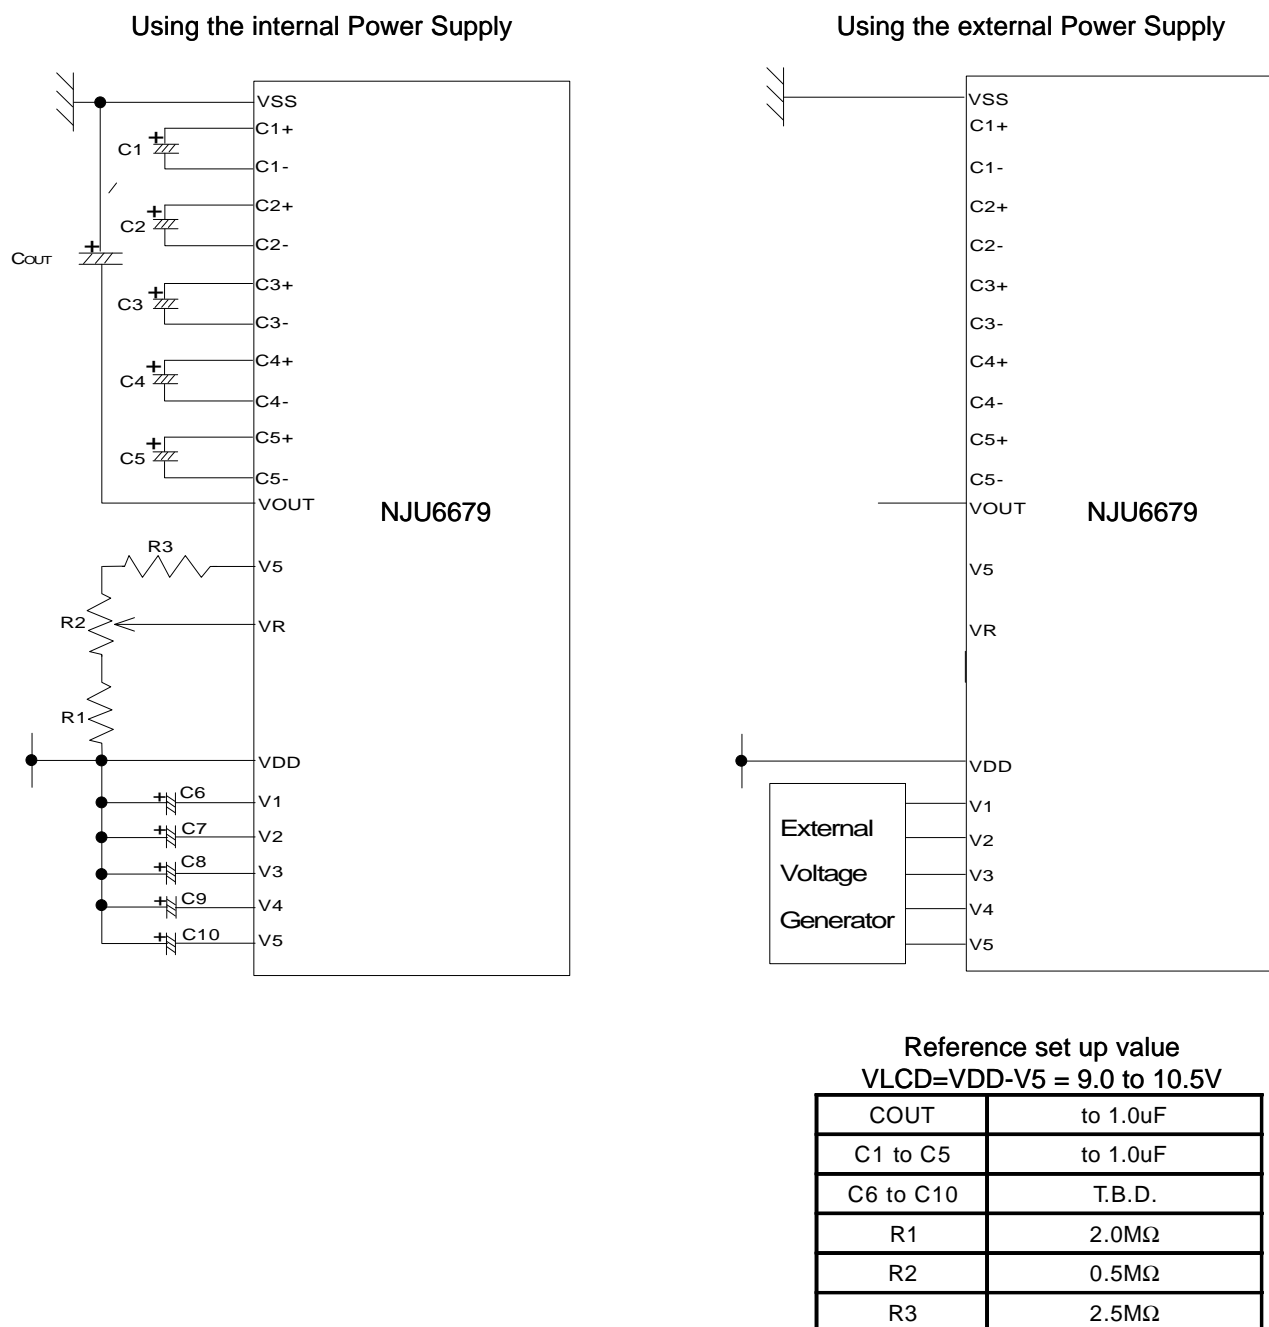

Fig.4
*1 The wait time depends on the C1 to C9, COUT capacitors (refer (4) (d)Fig.4), VDD and VLCD voltage. Therefore it requires the actual evaluation using the LCD module to get the correct time. (Refer to the following graph.)
As shown in Fig. 4, Five capacitors are required to connect to each LCD driving voltage terminal for voltage stabilizing. And the value of capacitors C6, C7, C8, C9 and C10 are determined depending on the actual LCD panel display evaluation.